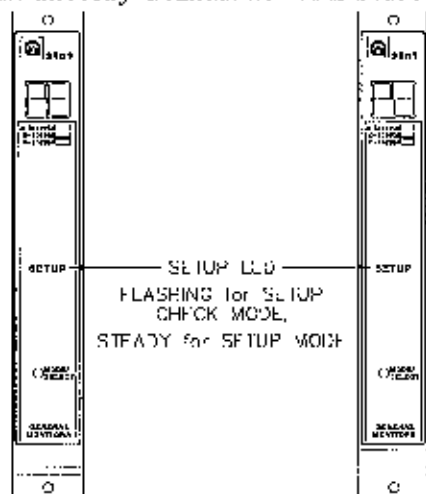

Figure 34
- Once the Card Test options have been selected, the user will either enable or disable the password option (figure 34). The display will indicate either **PE**, for enabled or **Pd**, for disabled. Press the Mode/Select switch until the desired option is displayed. Password Disabled is the factory default for this selection.